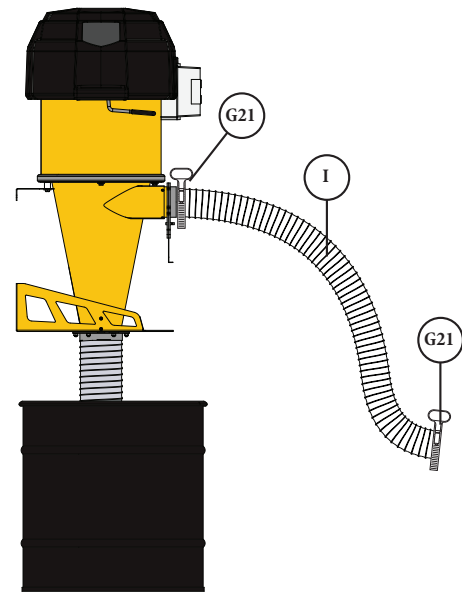

FIG. 32
Connect the Supercell to your tools or ductwork using the Vacuum Pressure-Rated Hose (I). Secure the hose in place using the Turn-Key Band Clamps (G21) at either end [FIG. 32].